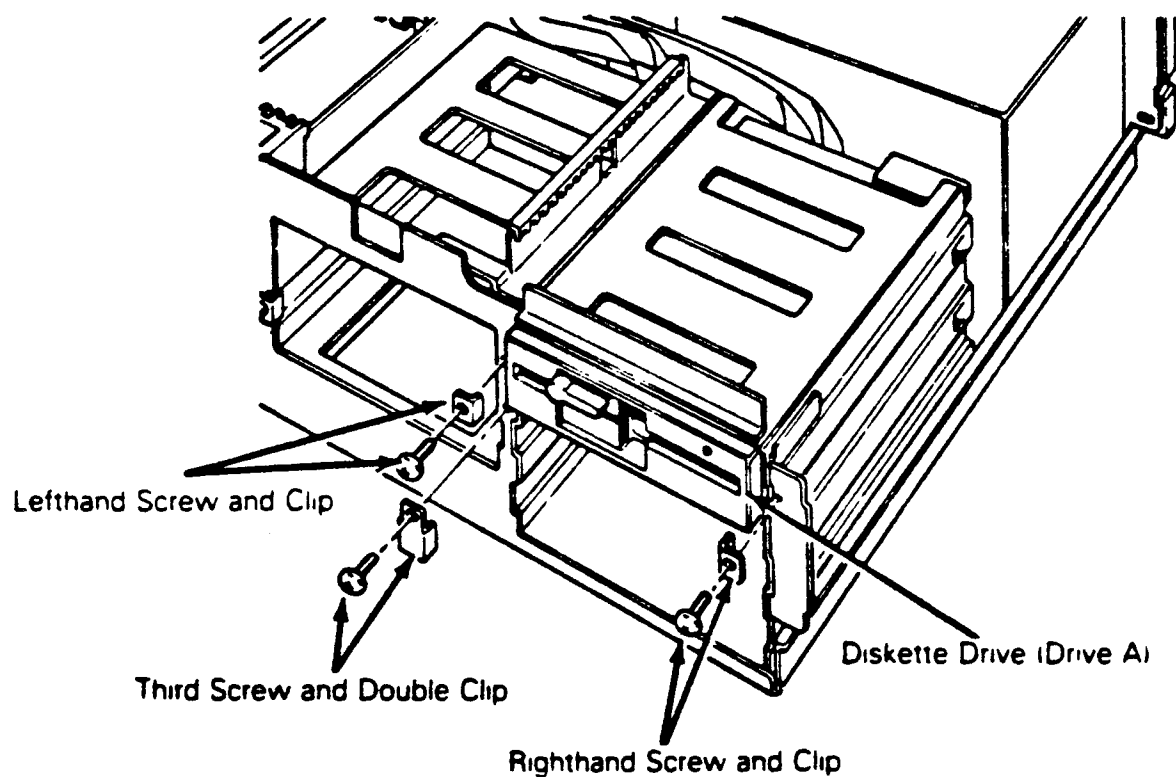

Figure 1-6. Mounting Hardware
12. Remove the double mounting clip located between the right and left drive mounting locations (refer to Figure 1-6).